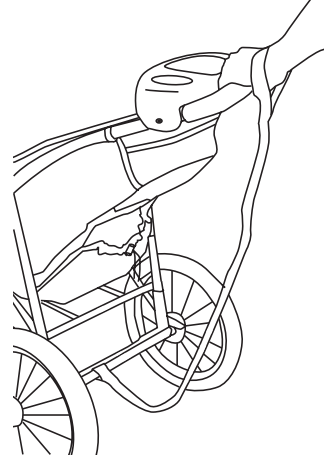
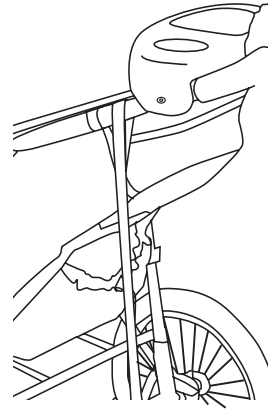

Fig. 20
Fig 20a
- SAFETY TETHER STRAP: Always connect the safety tether strap to either right or left wrist when jogging. The tether strap will keep the stroller from moving or rolling away in the event that you trip or stumble while running. (Fig. 20) The safety tether strap must remain connected to the rear lower frame cross member at all times. The safety tether strap can be stored on the left or right side of the stroller with the Velcro attachment, when not in use. (Fig 20a).